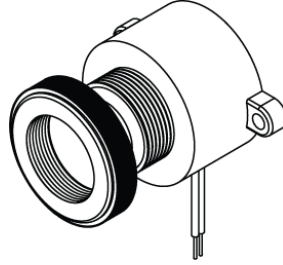

Figure 3 Buzzer
- 3) The buzzer provides an audible alert when the ELT is active (see Figure 3).